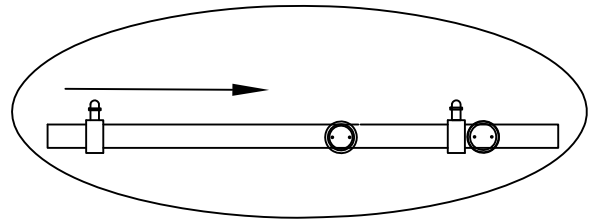

Fig. 3
- Slide Door Stopper (1) onto end of Top Rail (2). The bumpers on Door Stopper (1) should be positioned on the top of Top Rail (2) for final installation. Note: One door stopper comes pre-assembled on top rail between fixed glass bolt assembly. See Fig.3 for details.